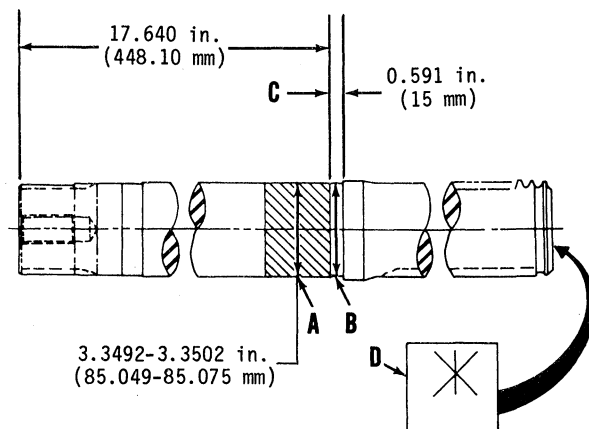

Fig. 193—On Models 4050 and 4250, axle shaft may be modified for installation of undersize outer bearing. Refer to text for details.
NOTE: If outer bearing cone is loose on axle shaft on 4050 or 4250 models, check outer end of axle shaft for identification mark (D—Fig. 193) indicating axle has been modified for undersize outer bearing cone. If axle shaft is standard diameter but is worn or damaged in bearing mating area, shaft may be modified for installation of undersize bearing cone as follows:
Grind axle shaft in area (A—Fig. 193) to diameter of 3.3492-3.3502 inches (85.049-85.075 mm). Shaft must be ground concentric with diameter (B) within 0.005 inch (0.125 mm) TIR. Do not grind area (C). After modifying the shaft, use a chisel to mark outer end of shaft with identification mark (D) as shown.